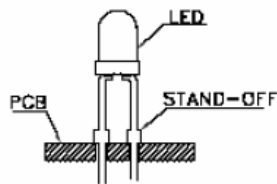
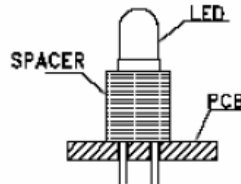

Fig. 3
Fig. 4
- Use stand-offs(Fig.3) or spacers (Fig.4) to securely position the LED above the PCB.